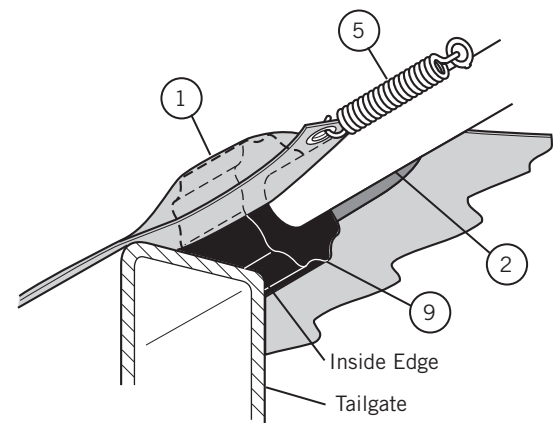

Figure 31-2
- Figure 31-2.** Before installing eye bolts (7) and springs (5), slide rubber bumper (9) over each end of cross arm and position inside of notch in tarp. Position bumpers to rest on tailgate.
- Fasten the arms with eye bolts (7) and 1/4 Keps nuts (8).
- Attach the spring (5) to the grommet in each corner of the tarp and eye bolt (7). Crimp the ends of the springs.